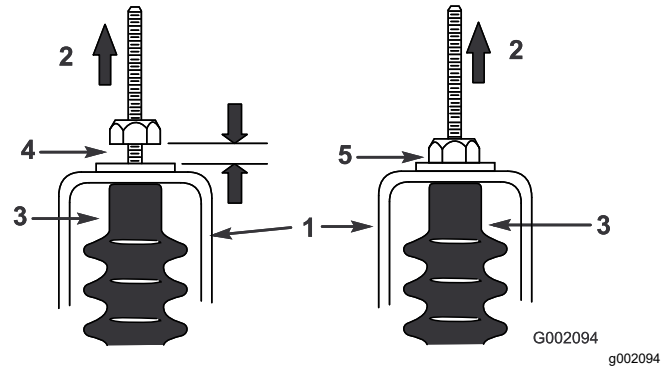

Figure 62
5. Pull up on each shift cable and ensure that there is a 0.76 to 1.52 mm (0.03 to 0.06 inch) between the nut/washer and the neutral bracket (Figure 62).